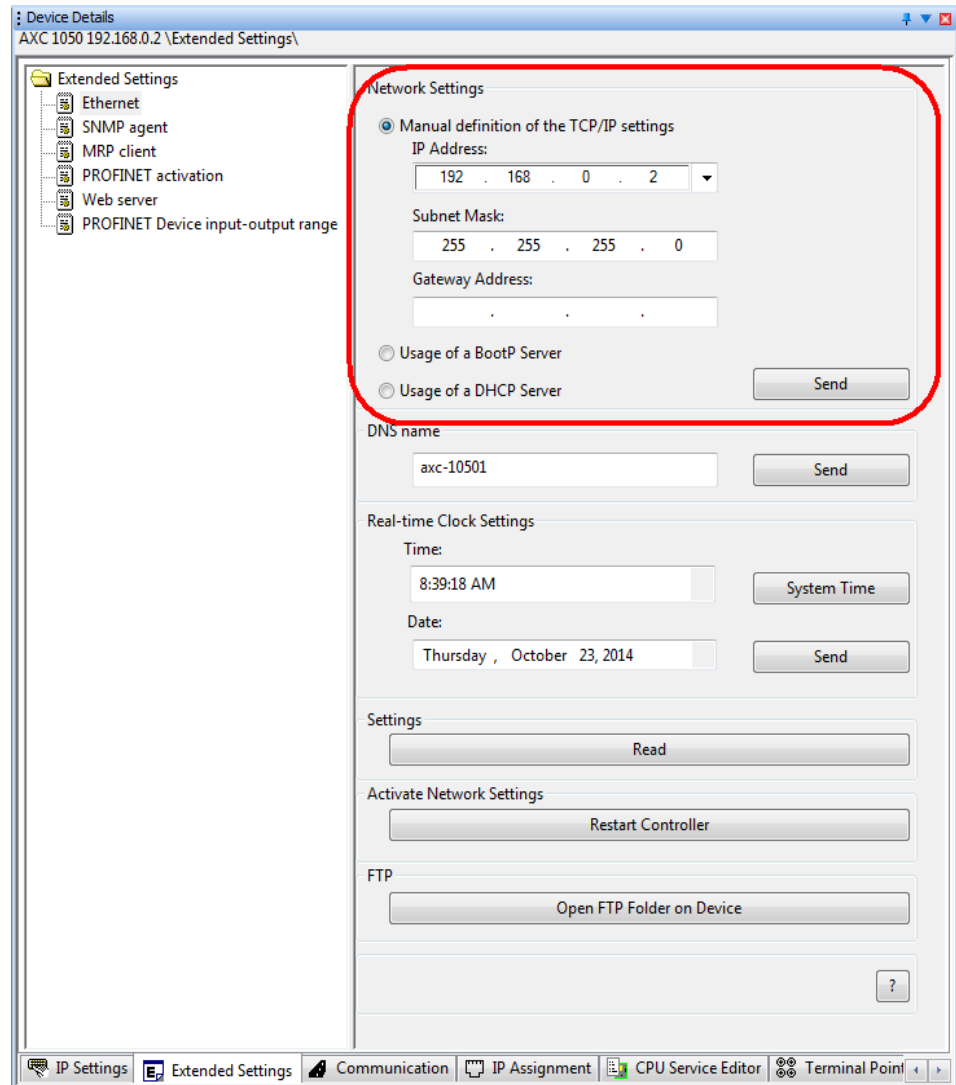

Figure 5-9 Network settings: manual assignment of the IP address
- Enter the required IP address (in the example in Figure 5-9: IP address: 192.168.0.02; subnet mask: 255.255.255.0).